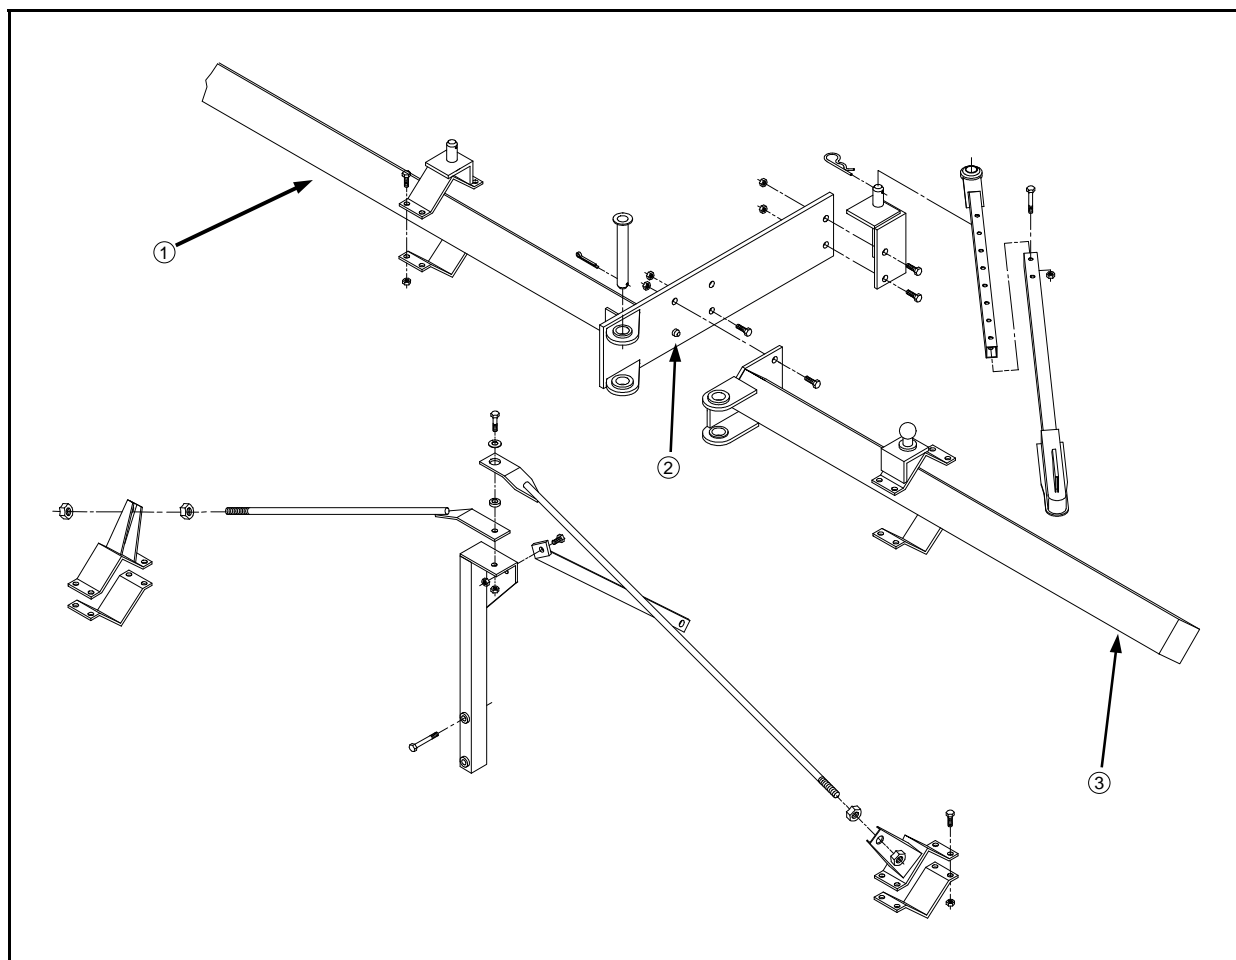

FIG 4.7
1. Attach the center tool bar (fig. 4.7, item 1) to front frame cross member with supplied hardware according to 204 SP DETASSELER Parts Manual for correct hardware.
The guide pin that is welded to outrigger mount should be located toward the bottom (fig. 4.7, item 2).
2. Attach left and right outrigger (fig. 4.7, item 3) with supplied hardware. Refer to 204 SP DETASSELER Parts Manual.